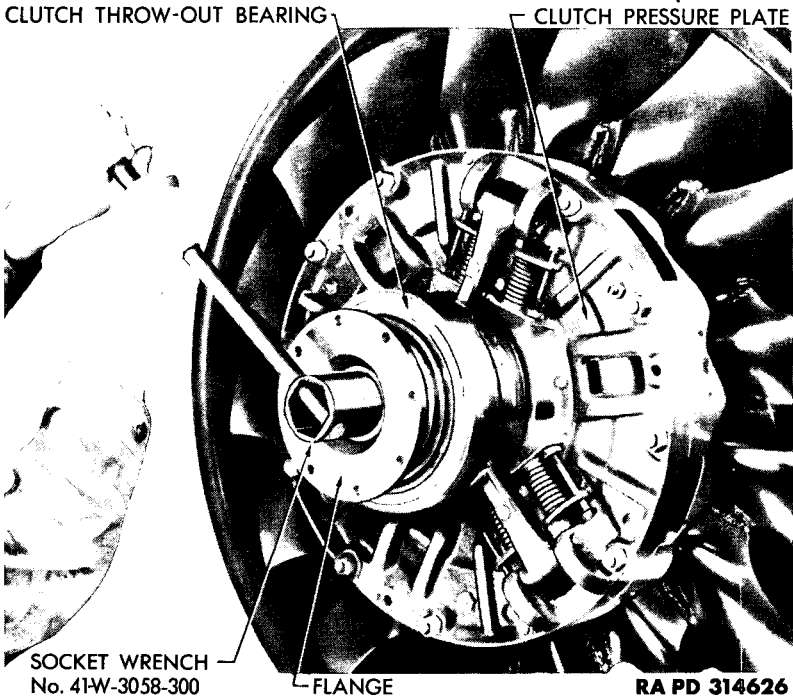
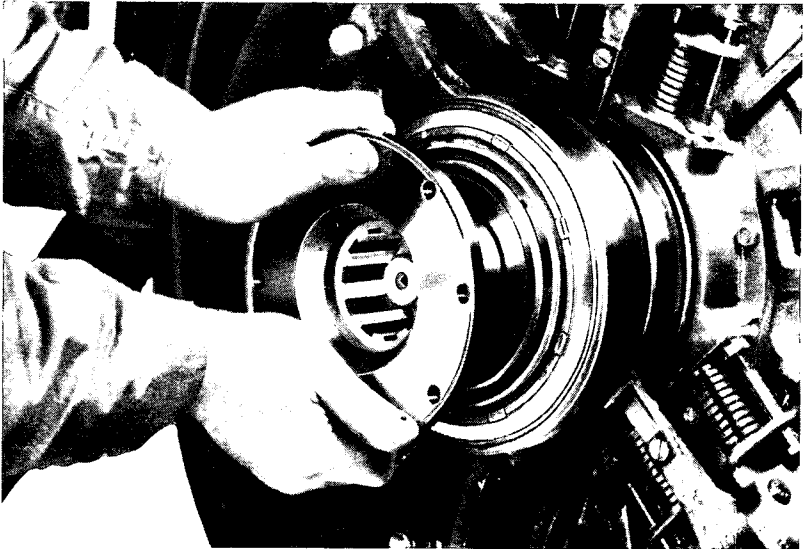

Figure 17 – Removing Clutch Spindle Flange Retaining Nut
Figure 18 – Removing Clutch Spindle Flange
a. **Remove Clutch Spindle Flange.** Pull cotter pin from flange retaining nut, and remove nut (fig. 17); using wrench (41-W-3058-300). Pull flange straight off clutch spindle (fig. 18). If necessary, use a standard bearing puller to remove flange.